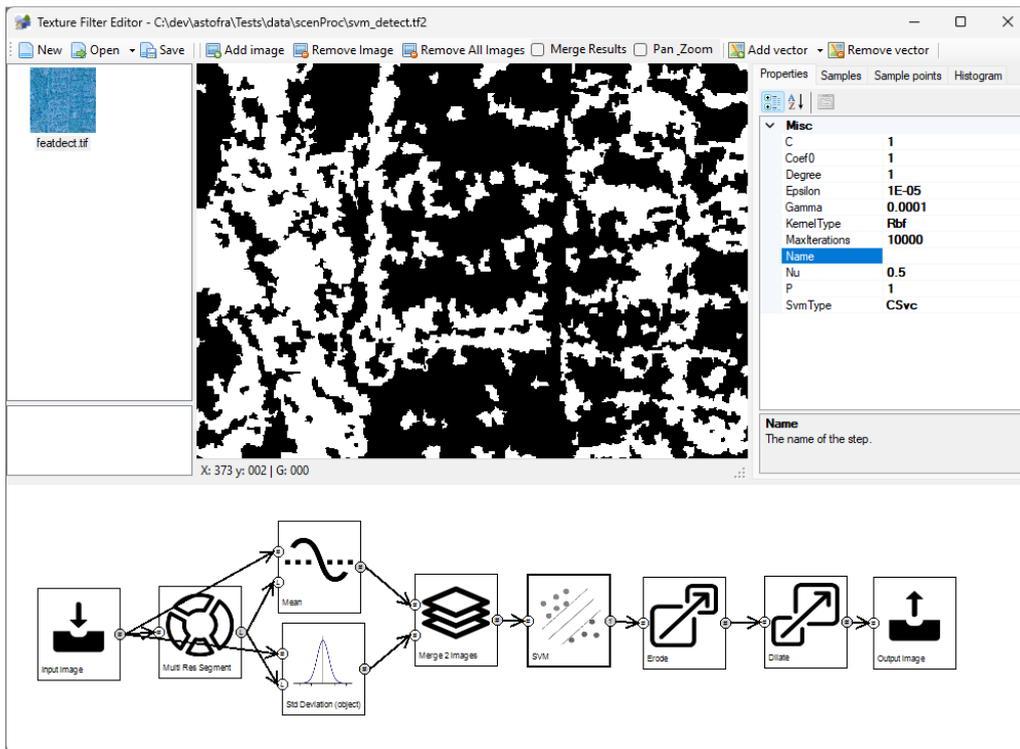

Figure 6.54: The SVM machine learning step that detects the vegetation
- The SVM step performs the classification using a machine learning algorithm, see Figure 6.54. There are many parameters that you can tune for this step, see section 6.2.46 for all the details. The selection of the best kernel type is probably the most important parameter that you need to decide. It takes some trial and error to see which one works best, although Rbf is probably a good one to start with.